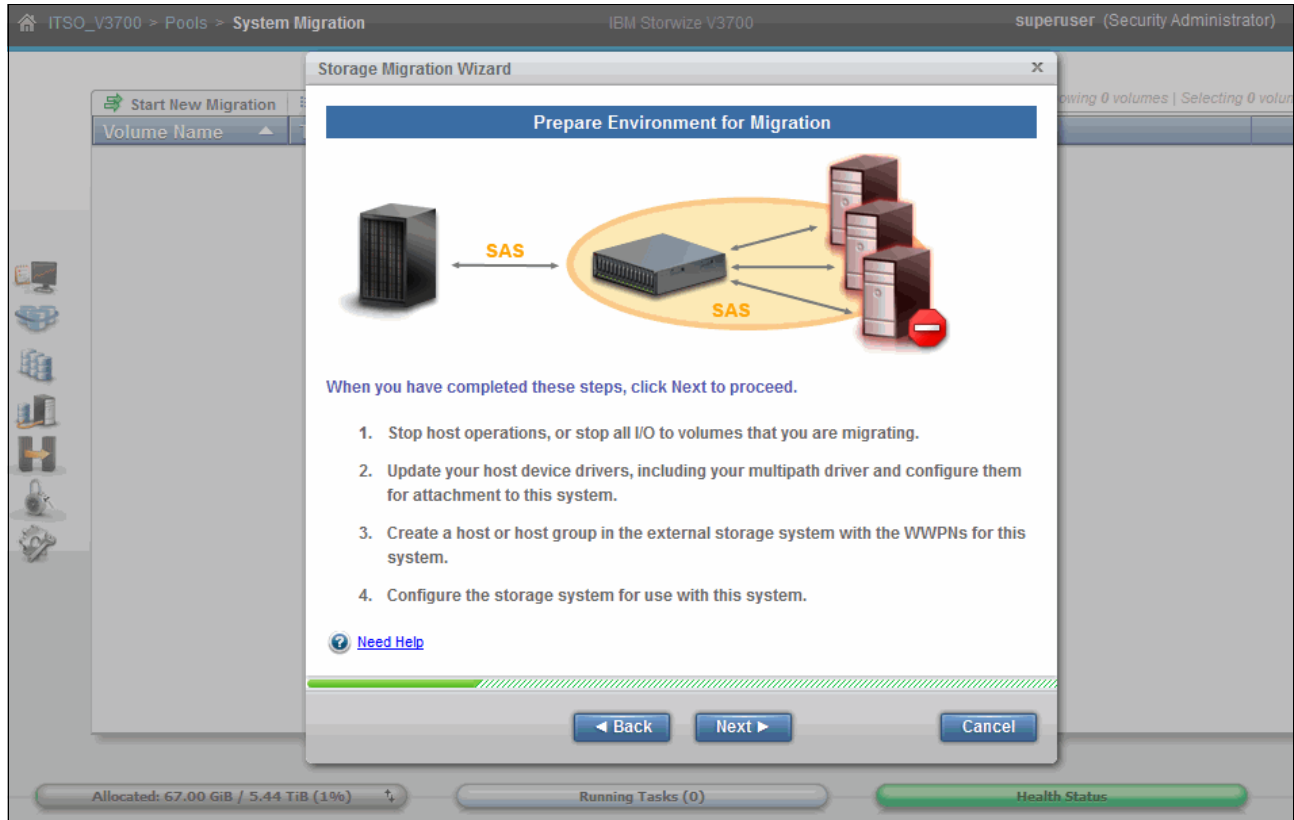

Figure 6-18 Instructions to prepare the migration environment: SAS attached storage
The subsequent panes in the migration wizard (as shown in Figure 6-18 on page 264) direct you to remove host zoning or SAS connectivity to the external storage. You are also prompted to create zones or SAS connections between the Storwize V3700 and the external storage.
1. When all of the required tasks are complete, click **Next** to continue. Figure 6-18 shows the Prepare Environment for Migration pane.
2. Now click **Next**, as shown in Figure 6-18 on page 264, to move to the next stage of the migration.